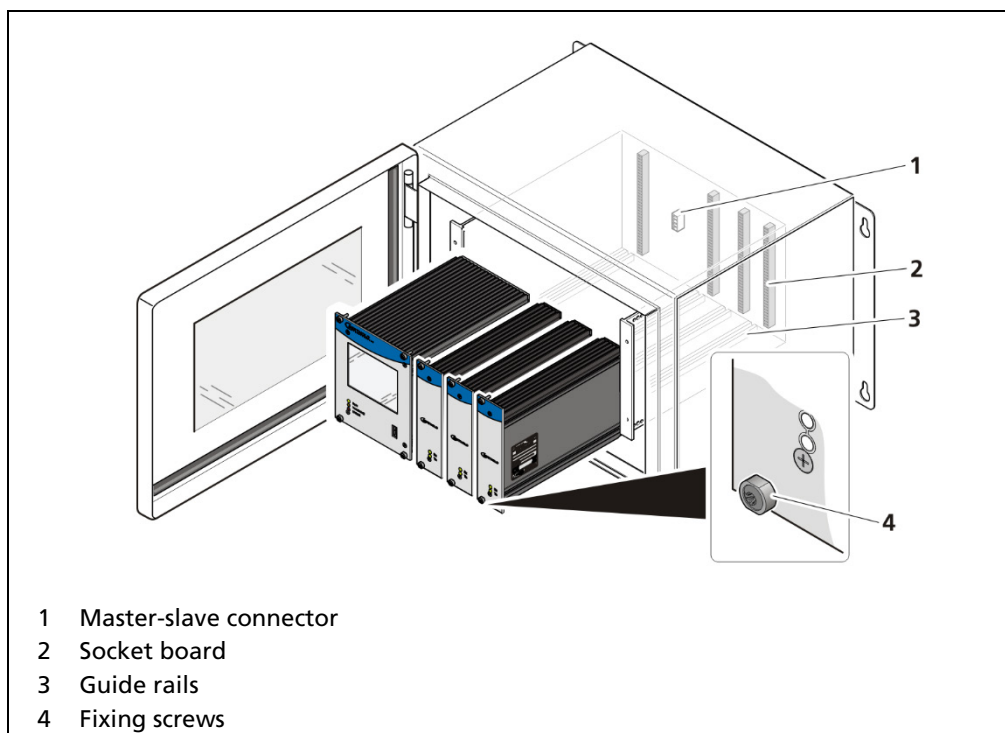

Fig. 14 Installation of the modules (master-slave)
- ▶ The master EVUs / slave modules must be secured against pulling out by fixing screws (Fig. 14, item 4).
1. Set modules into the guide rails (Fig. 14, item 3) and push it gently until the plug connector of the module (Fig. 14, item 2) is inserted into the socket board.
2. Tighten all fixing screws (Fig. 14, item 4).